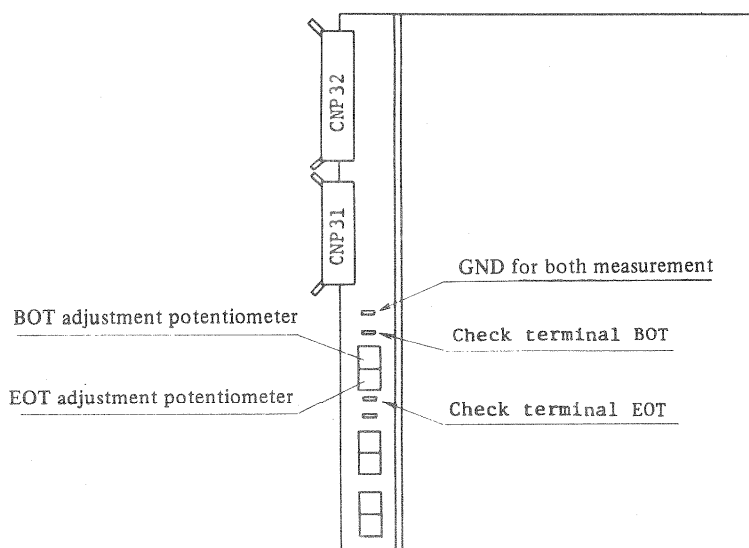

Figure 5.3 PCA 1A04 located in the MTU logic gate assembly
- (2) Before loading tape, check the voltage levels at terminals BOT/GND and EOT/GND (See Figure 5.3) with a digital voltmeter. The readings should be +2.0 V.
- (3) If voltage is not +2.0 V, adjust potentiometers for BOT and EOT, respectively, on the MTU PCA. See Figure 5.3 for location of this card and BOT and EOT potentiometers.